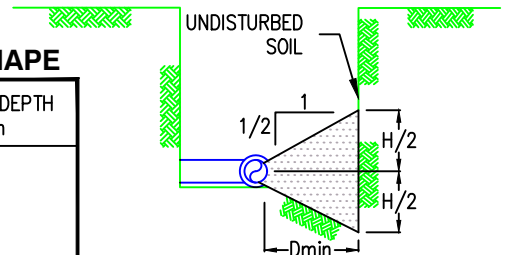

FIGURE 1
4. USING D_{min}, THE HEIGHT AND LENGTH OF THE THRUST BLOCKING CAN BE DETERMINED FROM THE DIMENSION RELATIONSHIPS ILLUSTRATED IN FIGURE 1 AND DESCRIBED BELOW: